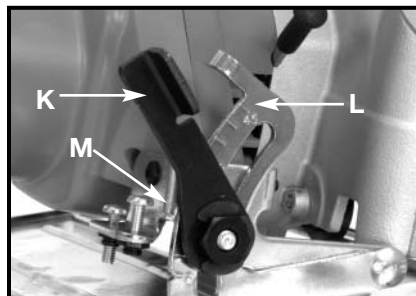
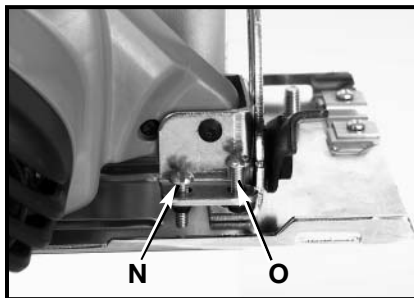

Fig. 11
Fig. 12
1. Lift up the bevel adjustment locking lever (K) Fig. 11.
2. Tilt the saw base until the desired graduation line on the bevel segment (L) Fig. 11 lines up with the indicating mark (M) Fig. 11 on bracket.
This saw is equipped with adjustable positive stops for both 90° (N) Fig. 12, and 45° bevel cuts (O) Fig. 12. Although these have been set at the factory, check them occasionally to ensure accuracy.
1. Loosen the bevel adjustment locking lever (K) Fig. 11 and position the base for 90° cuts, being sure that the top of the base is in contact with the bottom of stop screw (N) Fig. 12. Tighten the locking lever.
1. Loosen the bevel adjustment locking lever (K) Fig. 11 and tilt the base until the top of the stop screw (O) Fig. 12 contacts the extension on the bevel segment. Tighten the locking lever.